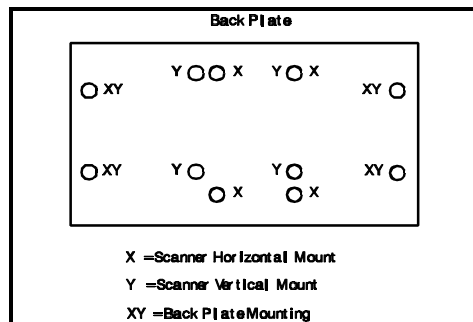

Figure 5
1. Drill four holes into the work surface that correspond with the holes indicated by an XY in Figure 5.
- ! For a *horizontal mount*, align the four holes on the back of the scanner with the four clearance holes located on the back plate marked with an X in Figure 5.
- ! For a *vertical mount*, align the four holes on the back of the scanner with the four clearance holes located on the back plate marked with a Y in Figure 5.